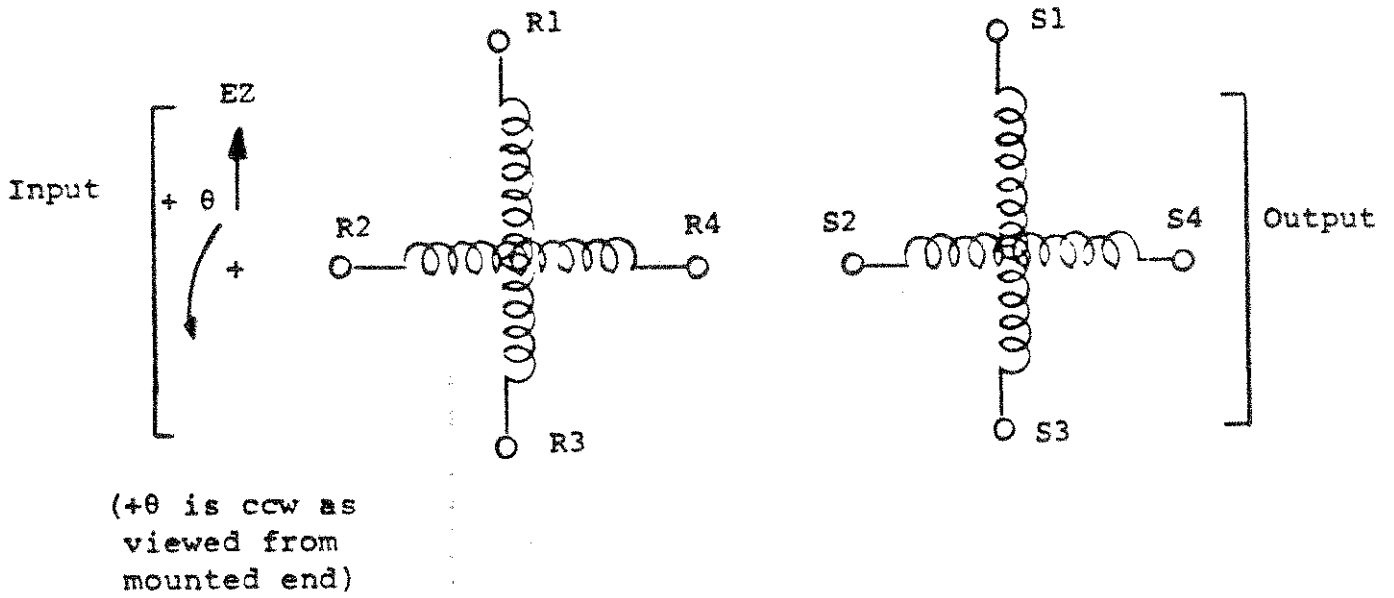
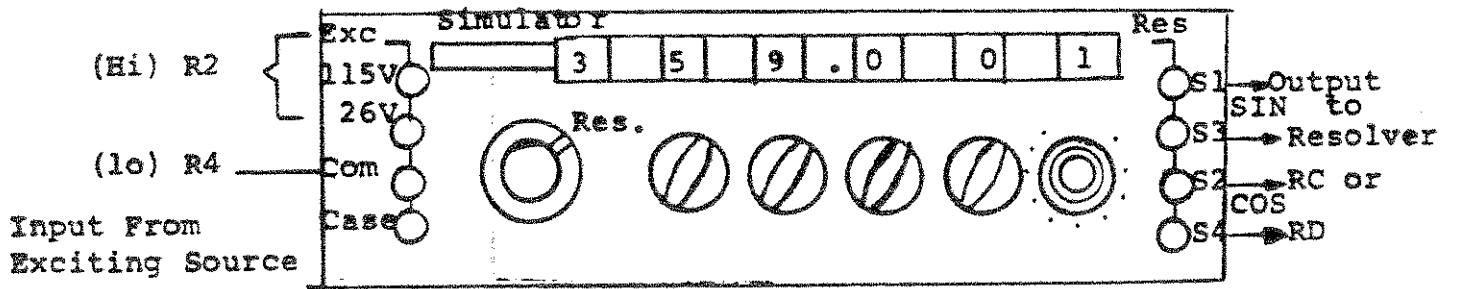
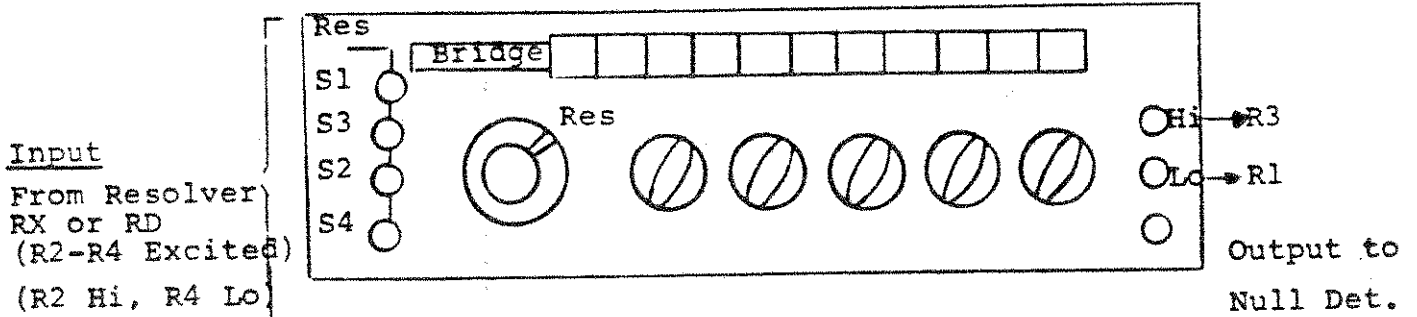

Figure 4-5. Rotor Excited Resolver at EZ, RX, RC, or RD
Figure 4-6. Model 530 Simulator - Resolver Mode
Figure 4-8. Model 540/10 Bridge, Resolver Mode
The schematic representation for a Resolver Transmitter (RX), Resolver Control Transformer (RC), or a Differential Resolver (RD) with the rotor excited is shown in figure 4-5. Input and output can be reversed for stator excited schematic.
The input and output terminals of the Model 530 simulator in the resolver mode is analogous to that of a rotor excited Resolver Transmitter (RX). The connections which correspond to those shown in figure 4-5 are illustrated in figure 4-6 for a Model 530 Simulator in the resolver mode.
in figure 4-5 are illustrated for a Model 540/10 Bridge in figure 4-8.